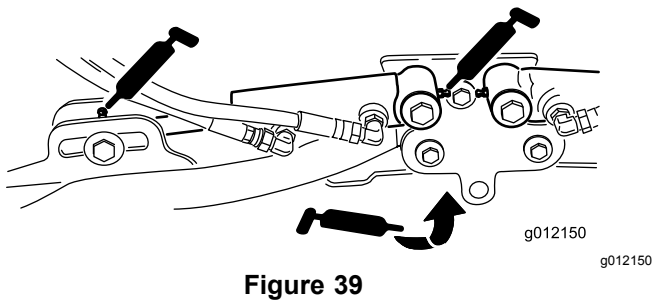

Figure 39
- Cutting-unit lift-arm cylinders (2 each) (Figure 39)
- Lift-arm pivots (1 each) (Figure 39)